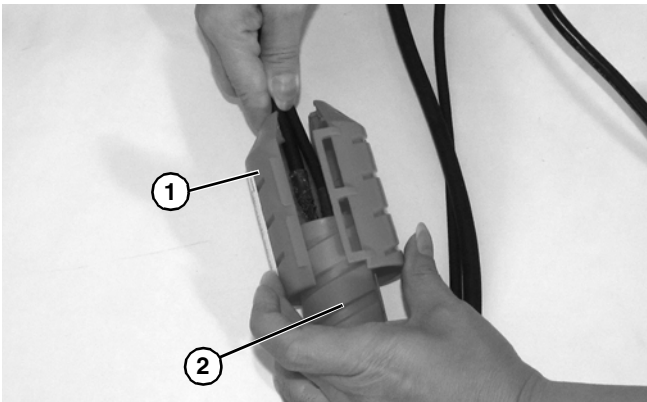

Figure 17
2. Remove outer cord cover (**Figure 17, item 1**) from inner cord cover (**Figure 17, item 2**).